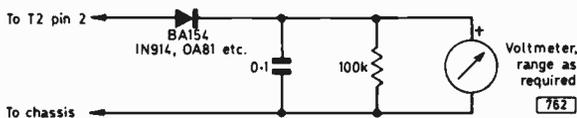

Fig. 1: Diode probe for setting L3.
- (1) Check with a multimeter that the +20V and -8V supplies are present.
- (2) Connect the negative lead of the multimeter to the a.c.c. output terminal 1C, positive lead to chassis.
- (3) Screw the core into L5 until the first peak in the a.c.c. voltage is reached.
- (4) Further peak up the reading by adjusting L1 and the i.f. strip chroma output coil L121 (unless the i.f. strip has been through the Alignment Service). Recheck the setting of L5. The reading should now be in the region of -10V.
- (5) Disable the colour killer by connecting a shorting link across D8. This should result in some sort of colour (no doubt completely incoherent) on the screen. If not, then probably the adjustment of L3 is so far out that no reference signal is being obtained. Roughly set L3 to give some sort of output.
- (6) Connect a shorting link across R19 (6.8k $\Omega$ ) to disable the reference oscillator.
- (7) Connect the multimeter from Tr3 collector to chassis. Adjust R11 (a.p.c. bias) to give a reading of +6V.
- (8) Remove the link across R19. Adjustment of C14 should now enable a lock to be obtained so that the colour is not divided into broad horizontal bands but is steady although it will still have considerable patterning on it.
- (9) Having obtained a lock, finally set C14 to again give a +6V meter reading. If no lock can be obtained go on to step (10) and then try again.
- (10) We now need to adjust L3 for maximum output from the oscillator. For this we need a diode probe—a suitable circuit is shown in Fig. 1. Connect the
The 405/625 system switch is operated by solenoid coils which are brought into circuit by the station selection switch. Turning to the u.h.f. position energises a coil momentarily so that the system switch slides across to the appropriate setting. Reverting to a v.h.f. channel activates the second coil on the solenoid, the system switch then returning to the 405 position. The solenoid unit is protected by the fuse-link resistor R123. If this fuse opens the a.c. mains input to the receiver is removed (see circuit diagram, Fig. 1, pages 120-1).